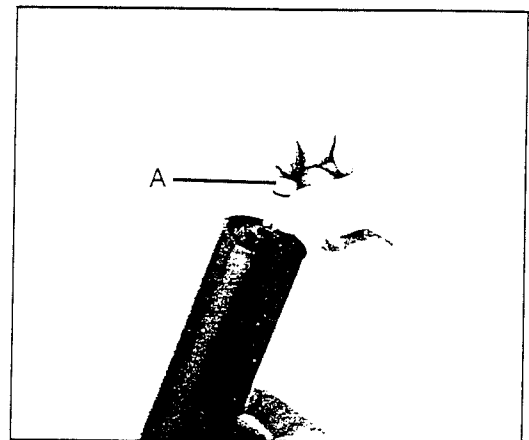

Figure 31
- 5) If the pump fails to offer resistance when pumping, check the valve cone (A) on the bottom of the cylinder to make sure that it is present and sealing. The valve cone is removed by pulling it out. The o-ring can then be replaced. The valve cone is replaced by pinching the two (2) ears together and inserting into the hole in the bottom of the cylinder. (See Figure 31).